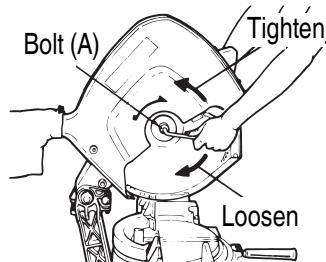

Fig. 13
- (1) Press the spindle lock and loosen the bolt (A) with the 17 mm box wrench. As the bolt (A) is of left-hand thread, it is loosened by turning in the direction indicated in Fig. 13.
- (5) Thoroughly clean washer (B) and the bolt (A) and install them onto the saw blade mounting spindle.
- (6) Press the spindle lock and tighten the bolt (A) by turning it with the 17 mm box wrench in the direction shown in Fig. 13.